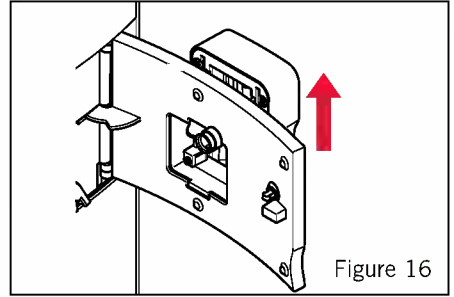

Figure 16
- Loosen the connecting tube from the holder in the door. See Figure 16.